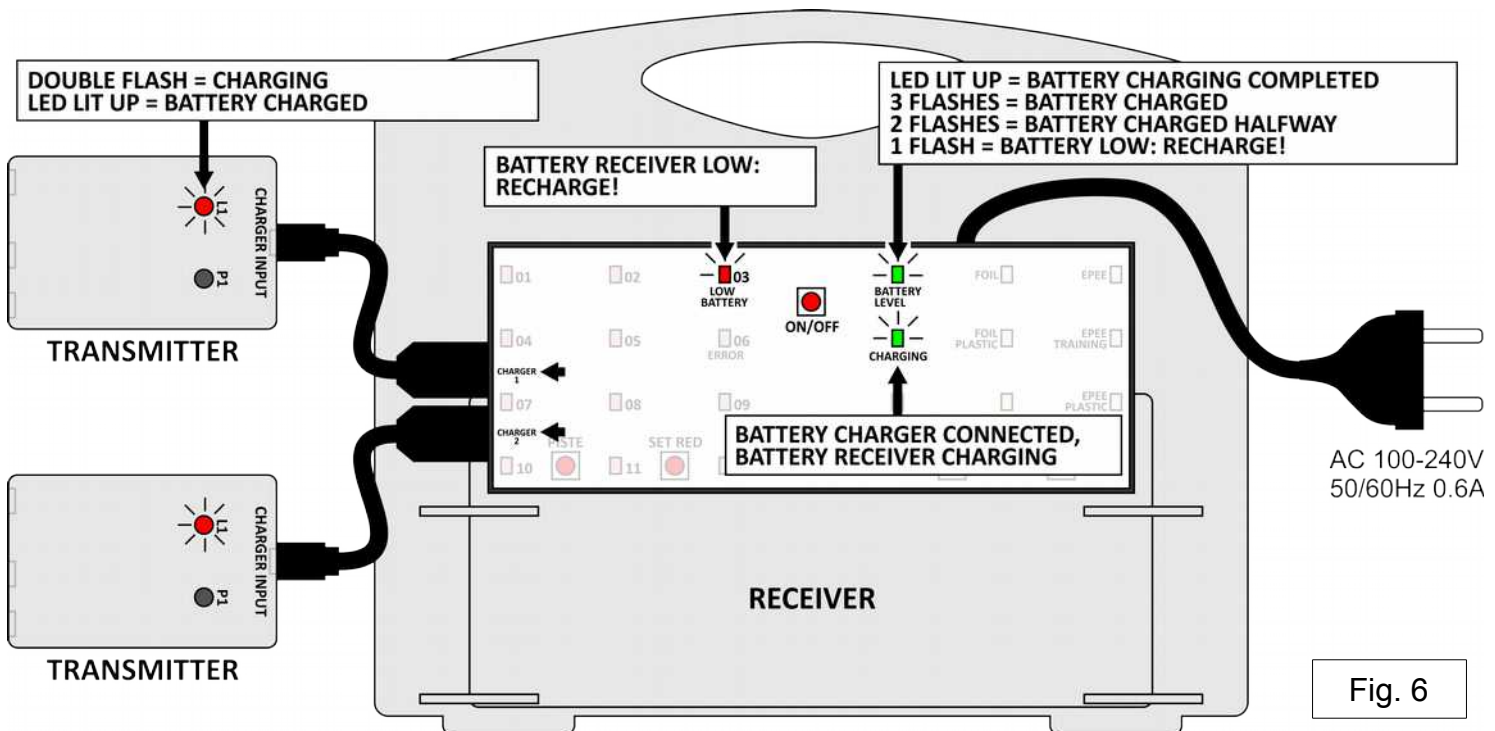

Fig. 6
6.1), connect the TRANSMITTERS as indicated in Fig. 6, using the proper cables provided. If the TRANSMITTERS are shut off, turn them on by pressing the P1 button; the TRANSMITTER's L1 LED will flash twice to indicate that the battery is being charged. It takes approx. 3 hours to fully charge the battery. When the battery is fully charged the TRANSMITTER's L1 LED will remain lit.